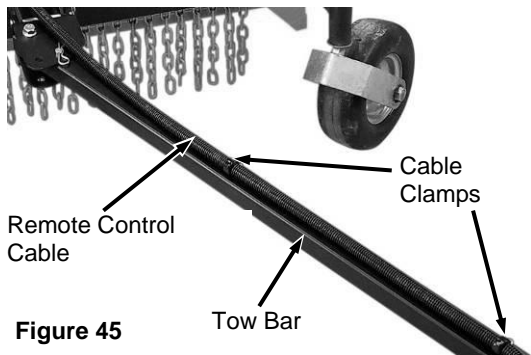

Figure 45
4. Remove Clamps from Remote Control Cable and rotate so that they are facing the opposite direction, then reinstall them onto the cable (**Figure 45**).